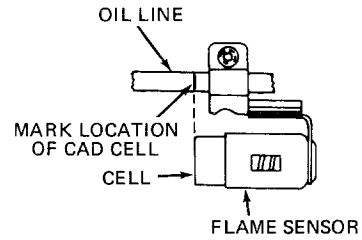

Fig. 6 – Old Style Flame Sensor.
B. Oil Line-Mounted Flame Sensor (Fig. 6)
1. Observe flame sensor position and mark location of Cad Cell on the oil line for reference as shown in Fig. 6. Then remove and discard the entire Flame Sensor by removing screw holding mounting bracket to the oil line.